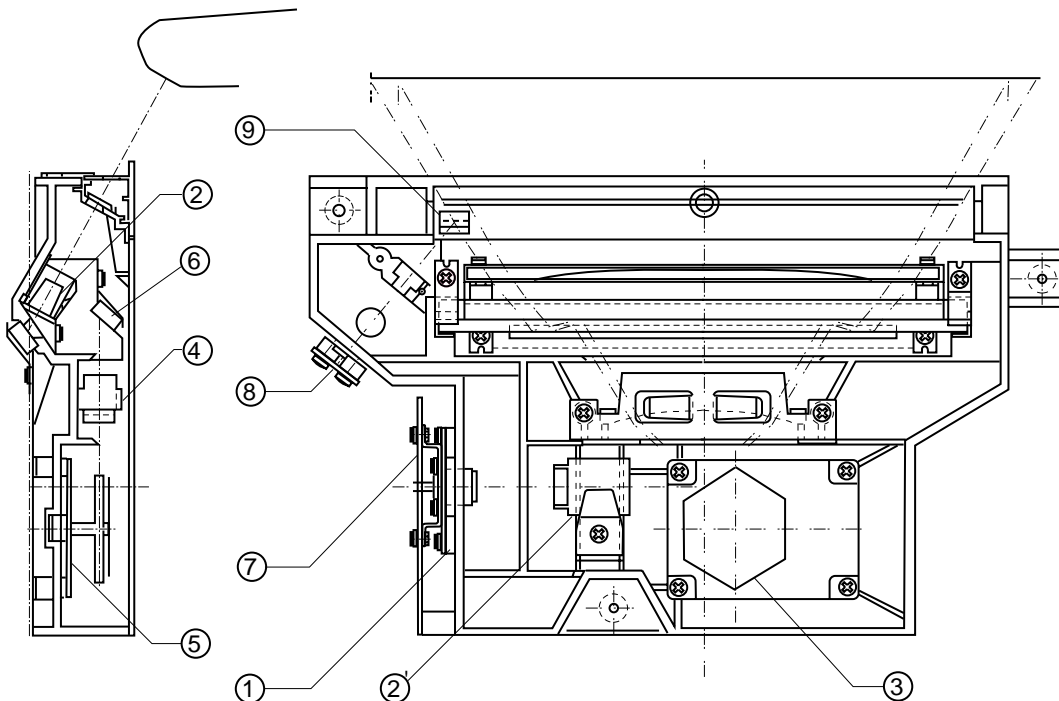

Fig.4-24
(1) Structure of the Scanning System (Refer to Fig.4-24.)